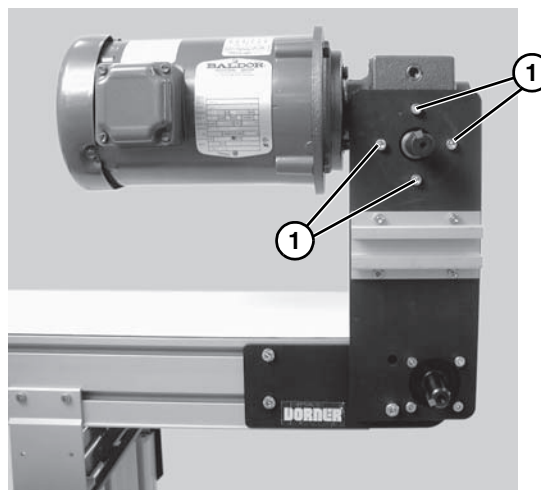

Figure 4
2. If required, change gearmotor position by removing four (4) screws (**Figure 4, item 1**). Rotate gearmotor to other position and replace screws. Tighten to 110 in-lb (12 Nm).